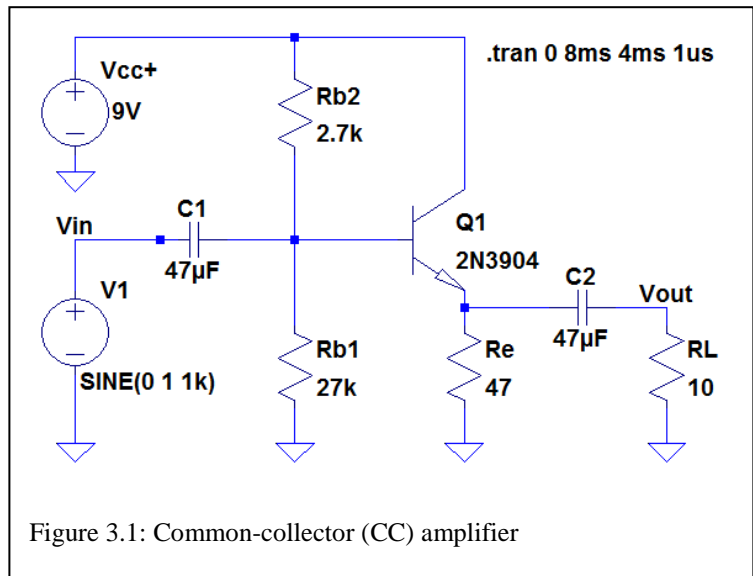

Figure 3.1: Common-collector (CC) amplifier
A buffer amplifier can be realized with a BJT through a common-collector configuration. This type of amplifier, shown in Figure 3.1, is also referred to as an *emitter-follower*, since the output on the emitter ideally follows the input signal on the base (that is, the gain is about 1). Notice the input has a 1 V amplitude; about a volt or two is the typical value we'd like to have at our speaker for a loud output.
1. Construct the CC amplifier of Figure 3.1 in LTspice. Run the DC Op Pnt to find the transistor Q-point:
2. Run a transient simulation with an 8ms stop time, 4ms delay time, and 1μs time step (see Figure 3.1 .tran statement). Plot the output and input voltages (this should look like Figure 3.2) and determine the gain of this CC amplifier.
4. Build the CC amplifier of Figure 3.1 and insert it between the generator and the speaker, replacing the CE amp in Figure 3.8.
- The CC amp consists of all parts of Figure 3.1 between and including the pair of coupling capacitors C1 and C1.
- $R_L = 10\Omega$ from Figure 3.1 is replaced with the 8Ω speaker.